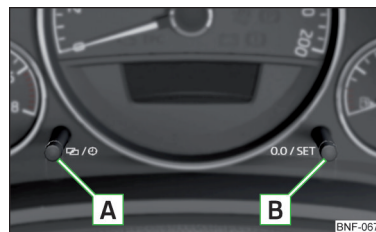

Fig. 26
- ▶ Press the button **A** » Fig. 26 and keep it pressed down until the hour display starts flashing.